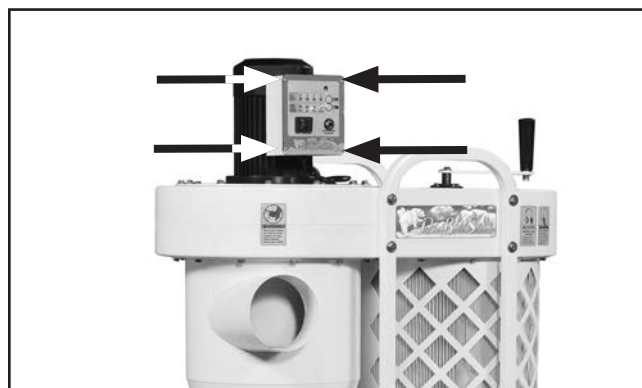

Figure 5. Remote receiver panel screws.
3. Remove the four screws that secure the remote control receiver panel to the control box (see **Figure 5**).